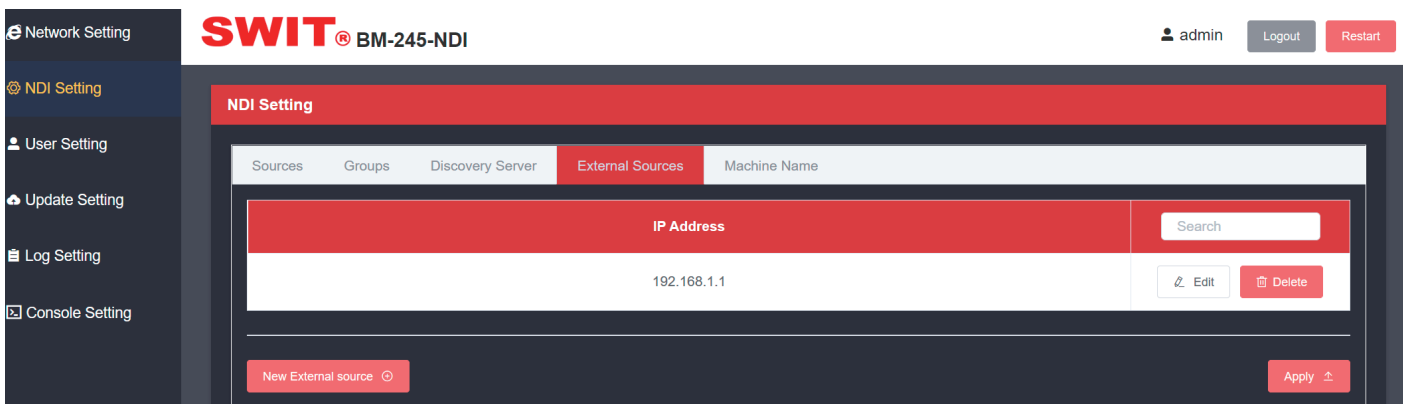

Fig.6
4. To add an NDI group, click “New External Source” to add an IP Address. A confirmation dialog box is displayed. In the IP Address text box, enter the DESIRED IP Address and click OK. After adding an IP address to “External Source”, restart the NDI monitor to display the detected NDI sources. See Fig. 6 below for details.